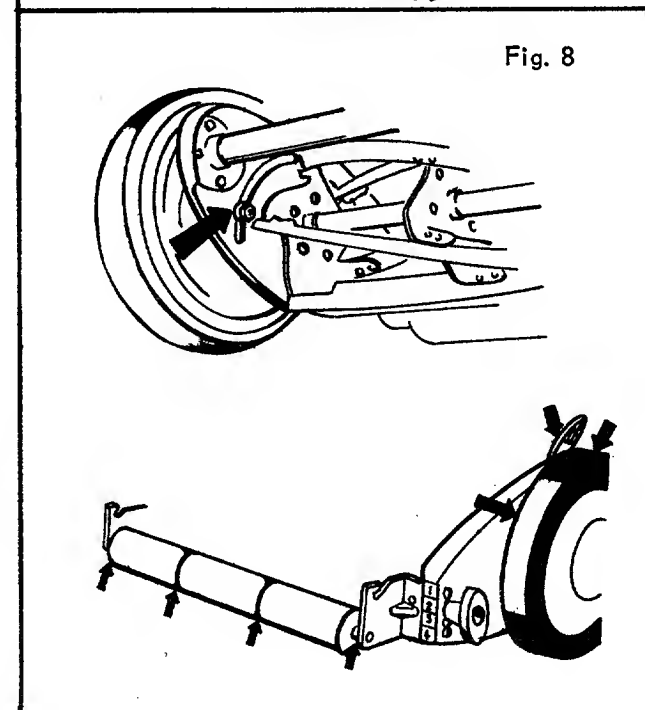

Fig. 8
5. Lightly lubricate with engine oil, points indicated on roller and between end plates and wheel dust covers. Periodic lubrication at these points, will insure smooth mechanical operation.(Fig. 8)